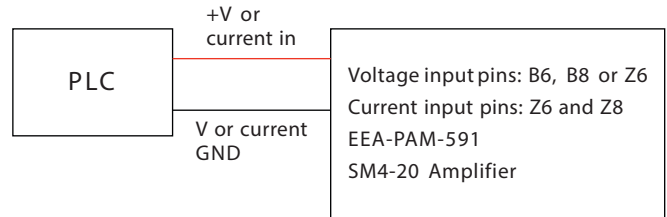

Figure 8. Before mounting the AxisPro valve, with no external feedback.
- a. Command signal goes to pin D with a ground reference at pin E (Figure 8 and Figure 9).